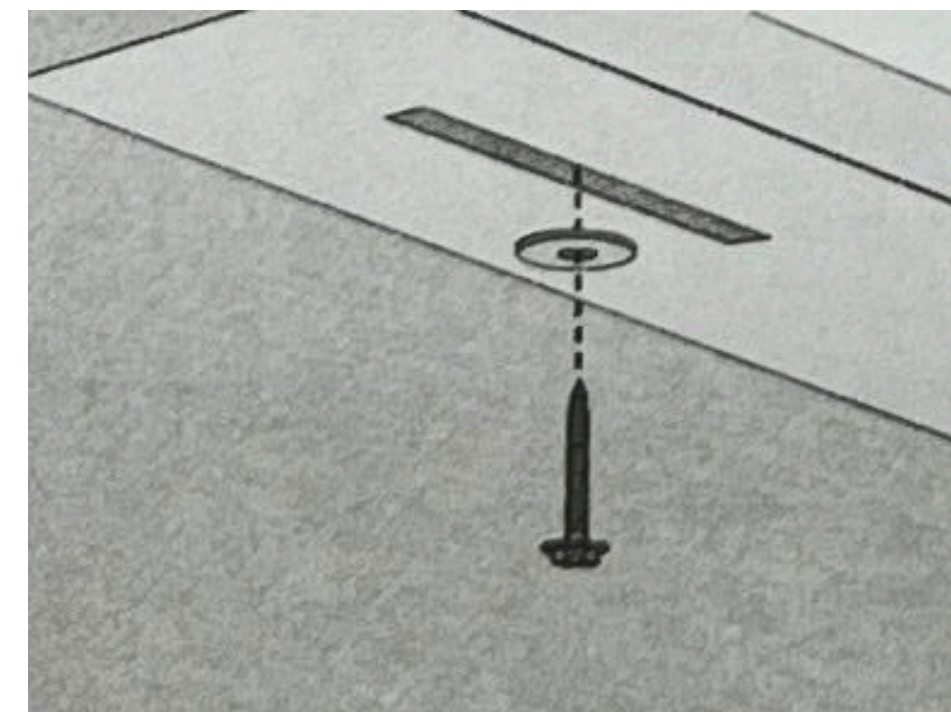

Figure 3: Through Head Rail
2. Holding the shade in place in its installation position, use the mounting bracket installation screws to screw directly through the shade head rail into the mounting surface [Figure 3].